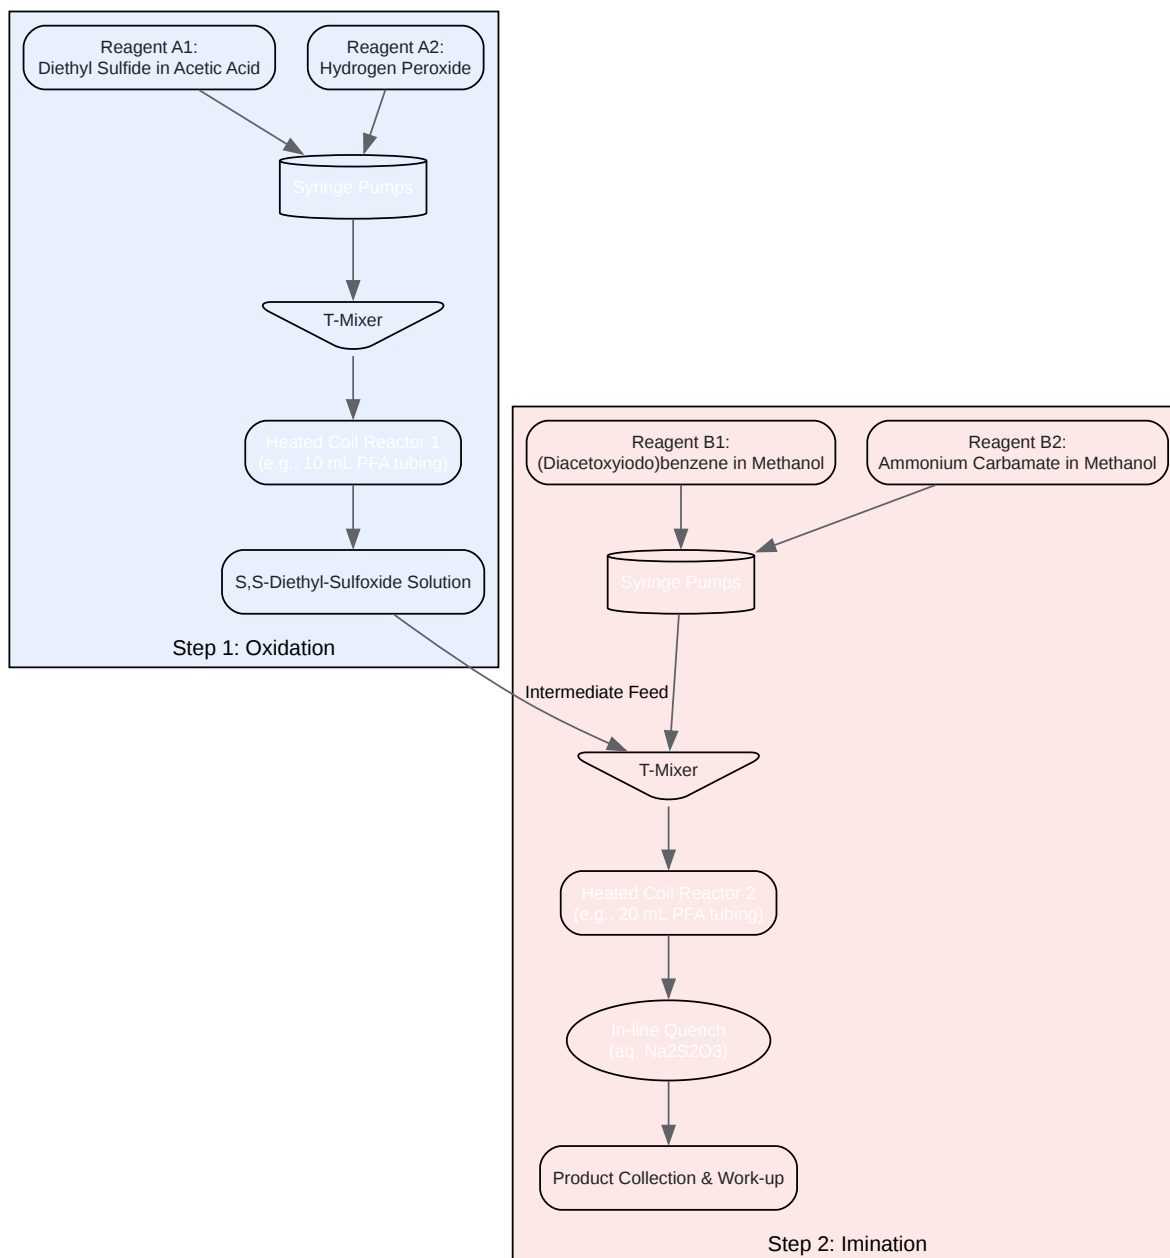

Figure 1: Continuous Flow Synthesis of S,S-Diethyl-Sulfoximine
- Assemble the flow system as depicted in the oxidation stage of Figure 1.
- Assemble the flow system as depicted in the imination stage of Figure 1. The output from the oxidation reactor is fed into the second T-mixer.